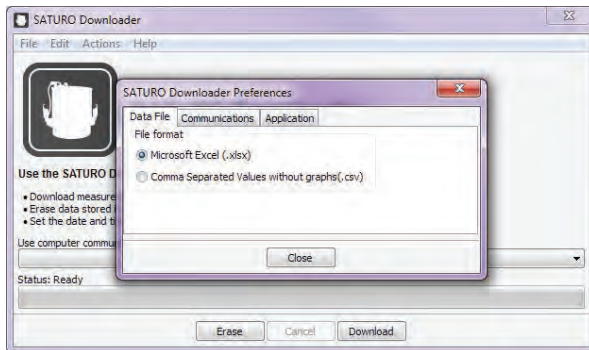

Figure 7 Change File Type prompt
3. Select the file type by selecting Edit > Preferences > Data File and choosing the appropriate file type (Figure 7).